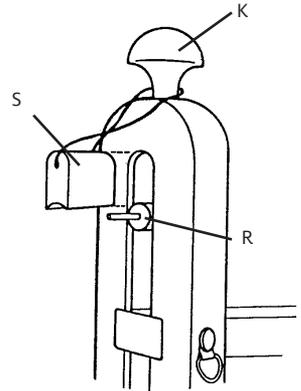

FIGURE 3
2. When you are spinning leave the cart wheels off. When you are going to go somewhere, be sure to also install the handle stop (S) as illustrated in figure 3.